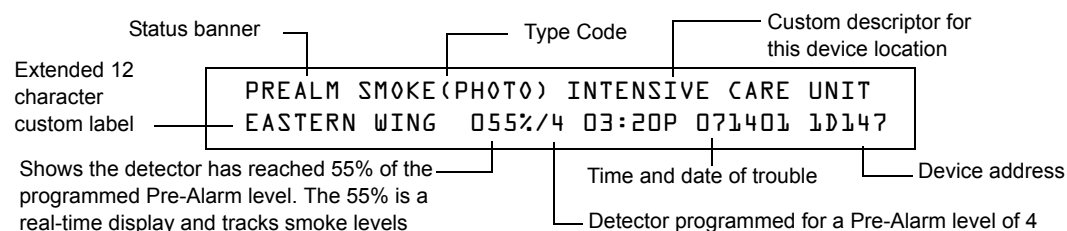

Figure 13 Sample of an Alert Pre-Alarm Message
- Displays a PREALARM status banner, the Type Code of the detector, and the Pre-Alarm level (Alert or Action) on the LCD display, along with information specific to the device as shown in Figure 13.